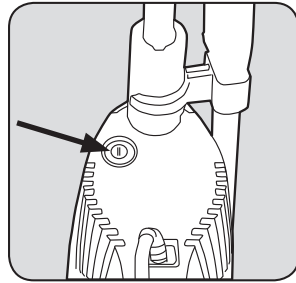

Fig. 8
4. Insert the power plug into a wall outlet and press the on/off button located on top of the main unit. (Fig. 8)